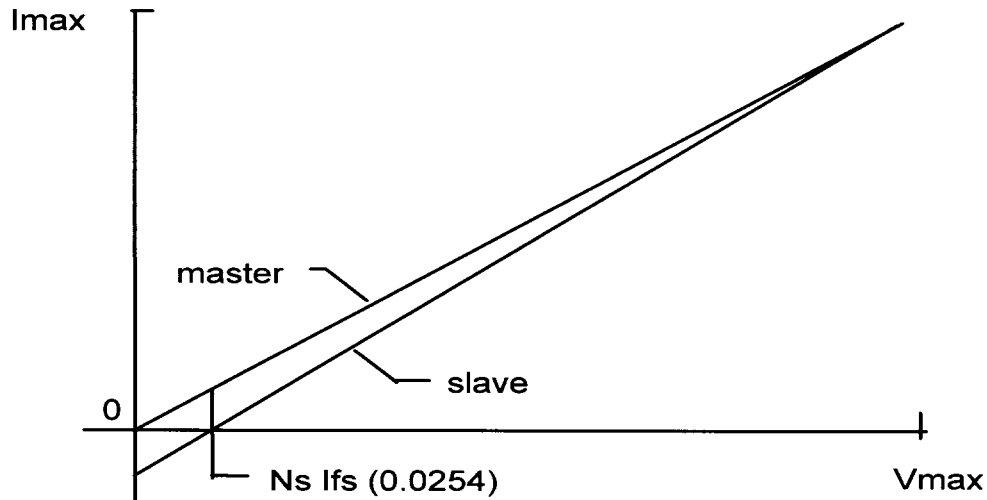

Figure F-1 Master/Slave Current Division
4. Program each slave supply for zero (0) output current either by pressing [CURRENT] [0] [ENTER] from the front panel keypad or sending the command "CURR:LEV 0" via the GPIB (see notes 2 and 3 on the following page).
8. Increase the master supply's output voltage. At low output currents, the master unit will be supplying **all** of the load current and the slave supplies will be sinking current, which is normal. At maximum output current each supply will be delivering an equal amount of output current. When operating at less than maximum current, it is normal to have unequal current sharing between the master and slave supplies. Current sharing among the supplies only becomes equal at maximum output current (see Figure F-1).